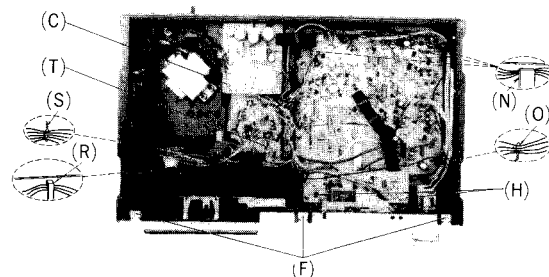
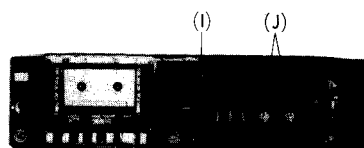

Fig. 3
Fig. 4
B Head azimuth adjustment Condition: * Playback mode Equipment: * VTVM * Oscilloscope * Test tape (azimuth) ... QZZCFM * Test tape (tape path viewer) ... QZZCRD	Combination head azimuth adjustment 1. Test equipment connection is shown in fig. 3. 2. Playback azimuth tape (QZZCFM 8kHz). 3. Adjust record/playback head angle adjustment screw (B) in fig. 4 so that output level at LINE OUT becomes maximum. 4. Measure both channels, and adjust levels for equal output. 5. After adjustment lock head adjustment screw with lacquer.  Fig. 3  Fig. 4
Ⓕ Playback gain Condition: * Playback mode * Normal position * Output level control ... MAX Equipment: * VTVM * Oscilloscope * Test tape ... QZZCFM	1. Test equipment connection is shown in fig. 3. 2. Playback standard recording level portion on test tape (QZZCFM 315Hz), and using VTVM measure the output level at LINE OUT. 3. Make measurement for both channels. Standard value: around 0.7 V Adjustment 1. If measured value is not standard, adjust VR1 (L-CH), VR2 (R-CH) (See fig. 1). 2. After adjustment, check "Ⓕ Playback frequency response" again.